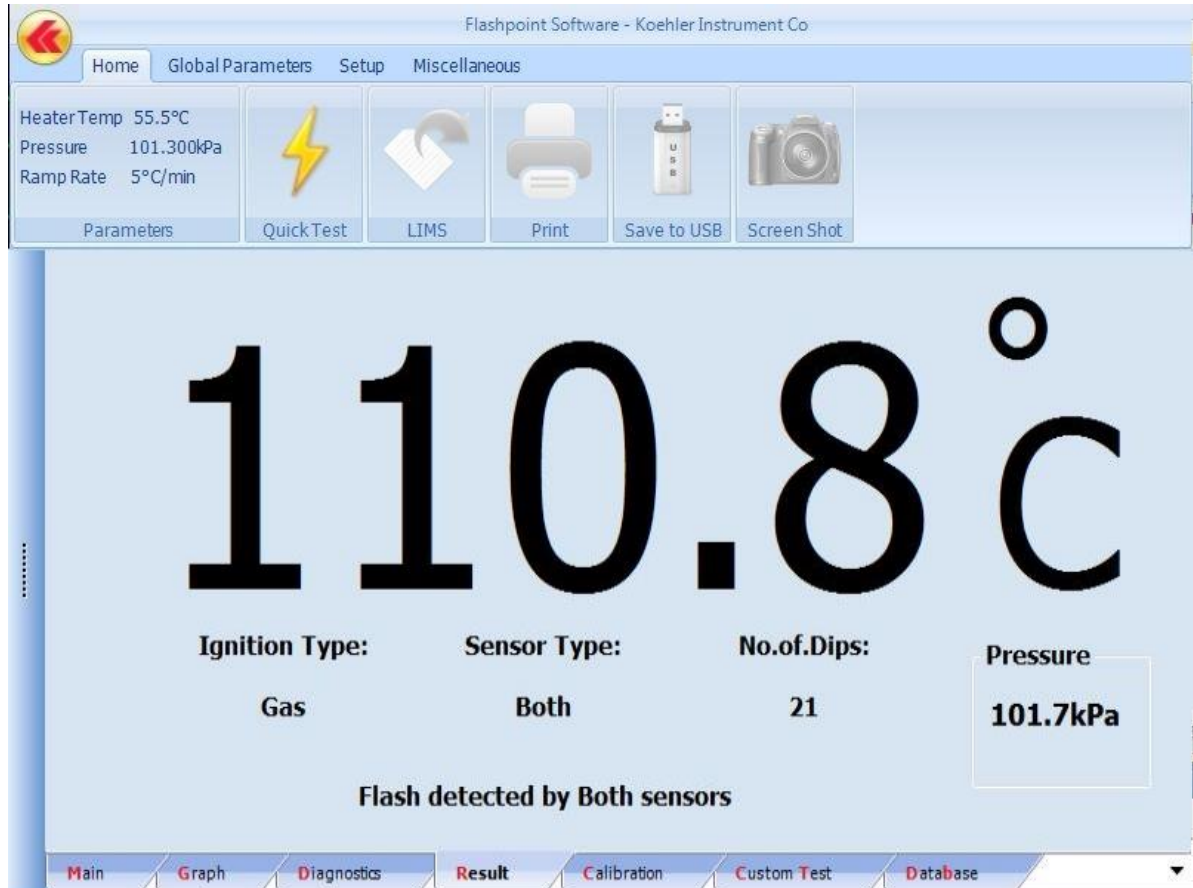

Figure 26: Result Screen
13. **Result Screen** - After a Flask Point Test is complete, the Results Screen will be displayed. See **Figure 26** below. The corrected flash point value is prominently displayed at the center of the screen. Additionally, the **Type of Ignition** used to perform the test is displayed as well as the **Sensor Type** which detected the flash, the **Number of Test Dips** that occurred throughout the duration of the test, and the **Barometric Pressure** measured during the test.